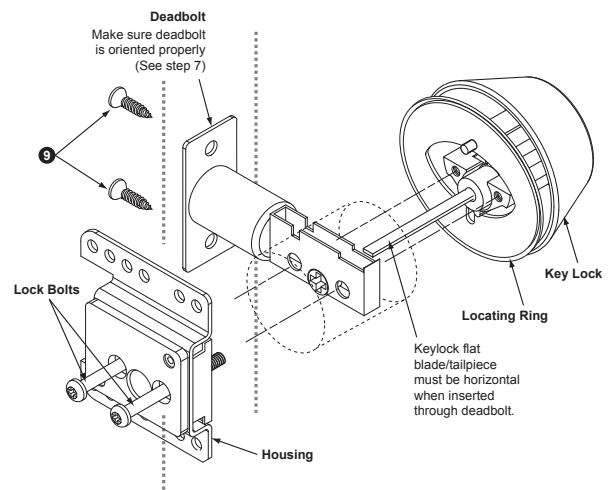

Figure 8
- With the **deadbolt** RETRACTED, position the **key lock** on the outside of the door with the **locating ring** fitted to the back of the **key lock**, while inserting the flat blade (tailpiece) horizontally through the **deadbolt** crosshole (Figure 8).